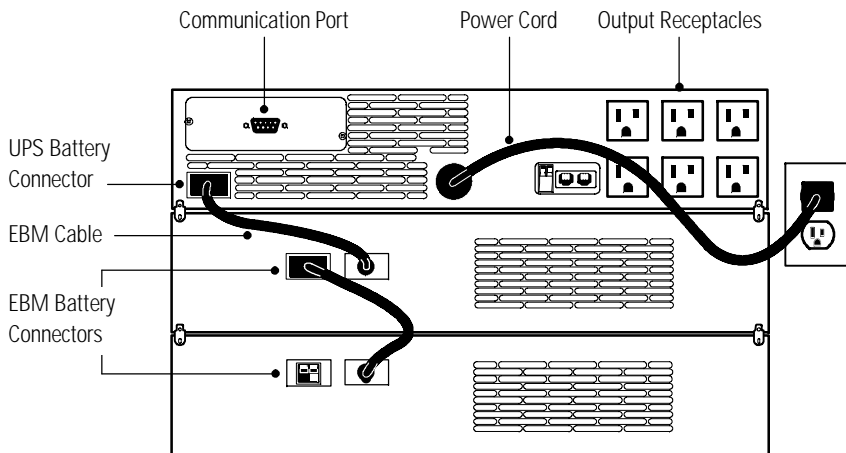

Figure 9. Typical UPS Installation (120V Model Shown)
The following steps explain how to install the UPS. Figure 9 shows a typical installation only. See “UPS Rear Panels” on page 24 for the rear panel of each model.
5. Plug the EBM cable into the battery connector on the UPS rear panel (see Figure 9).